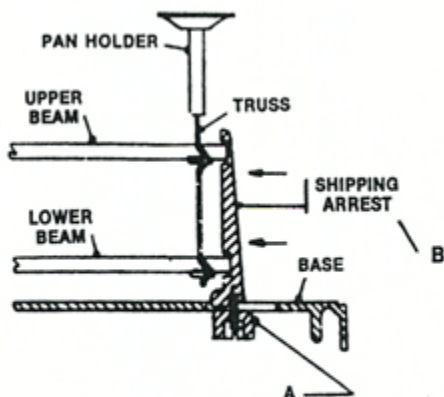
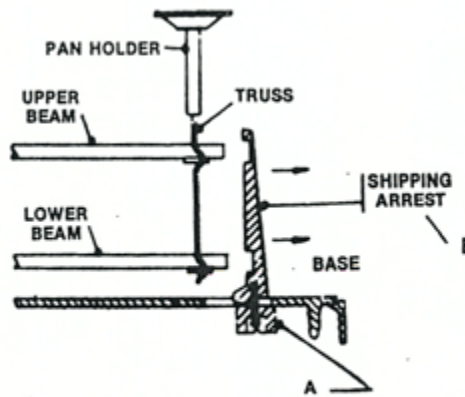

FIGURE 1
FIGURE 2
The balance is always locked with internal shipping arrest posts (B) before shipping to avoid breakage. Figure 1 illustrates the locked position, that is, with shipping arrest posts restraining the movement of the upper and the lower beams. Figure 2 shows the unlocked position with the shipping arrest posts moved away from the beams and secured in position for use.
1. Be sure the small operating knob in the lower front center of the base is turned clockwise to lock the balance. Lay the balance on its back and loosen the two knurled shipping arrest knobs (A) under the base (shown in figure 1). Do not touch the screw in the center of the knobs. Merely loosen the knobs slightly, push them as far as possible towards the ends of the balance, and tighten them again as shown in figure 2.
3. Place the pan holders on top of the trusses visible through the grommet openings in the glass on the top of the balance (Figure 2). Place the pans on the pan holders. If the balance has a scoop, it should be placed on the left-hand pan holder.
When the balance is moved by hand or transported, the shipping arrests must be locked. To do this, rotate the operating knob clockwise to lock the balance and remove the pans and pan holders. Lay the balance on its back and slightly loosen the shipping arrest knobs (A). Move them toward the center of the balance so that the shipping arrests (B) engage the beam ends (figure 1). **IF THE BALANCE IS TO BE SHIPPED ANYWHERE, IT MUST BE ARRESTED AS ABOVE. FAILURE TO DO SO, VOIDS ANY WARRANTY.** The pans and pan supports must be removed, wrapped and placed under the lid with the lid closed. The balance must be packed in a sturdy carton with sufficient cushioning to avoid damage in transit.